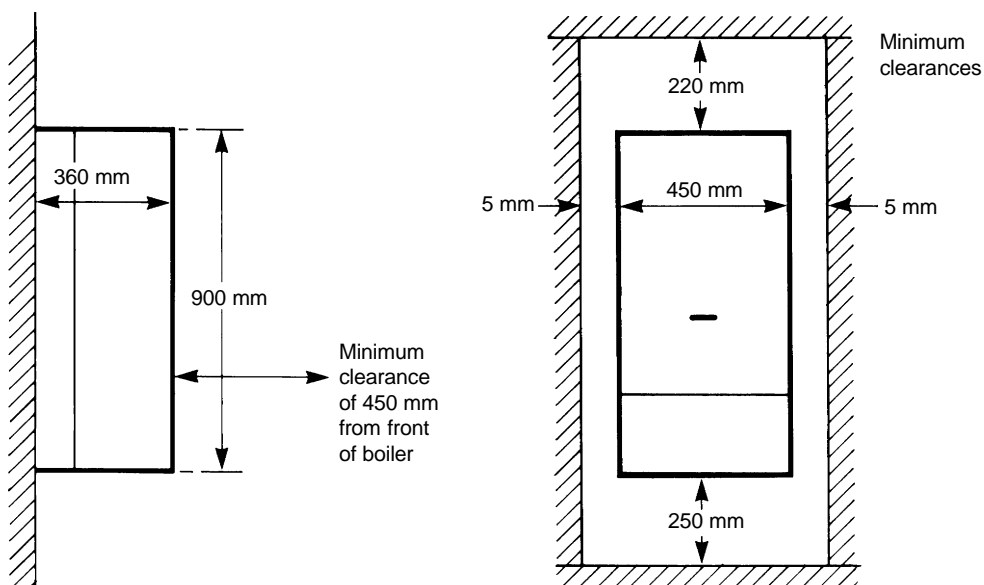

Fig. 9
4.2 CLEARANCES REQUIRED - Fig. 9